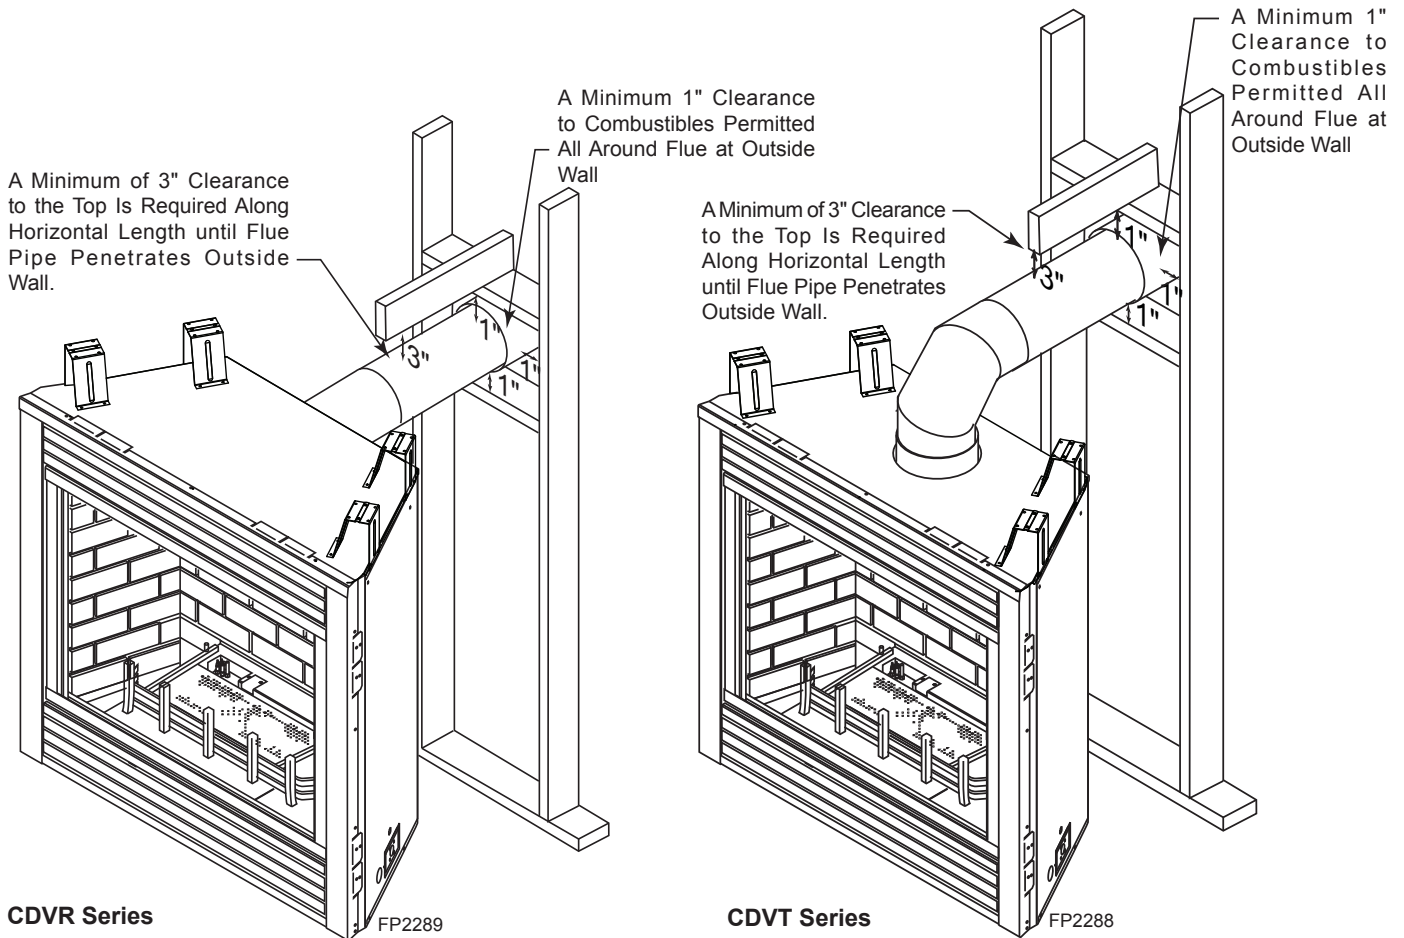

Figure 14 -
- The maximum horizontal distance between the rear of the appliance (or end of the transition elbow in a corner application) and the outside face of the rear wall is 20" (508 mm). *Figure 14*